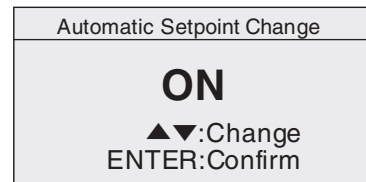

Fig. 1 (Previous setting screen)
Step 2. Select "ON" and press key to determine, then the previous setting screen appears (Fig. 1).